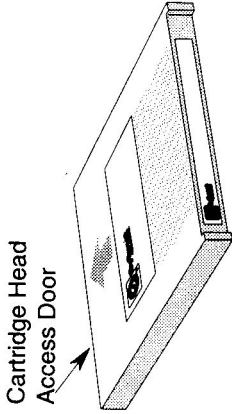

Figure 11. Parts of the SQ310/SQ327 Cartridge
1. Hold the cartridge so the cartridge head access door (shown in Figure 11) faces the drive and the silver write-protect indicator faces downward.